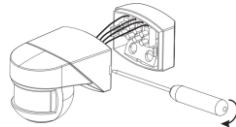

Figure 1
1. To remove the rear cover, insert a flat-tip screwdriver into one of the slots between the rear cover and the main housing. Twist the screwdriver and the rear cover will unclip (Figure 1).